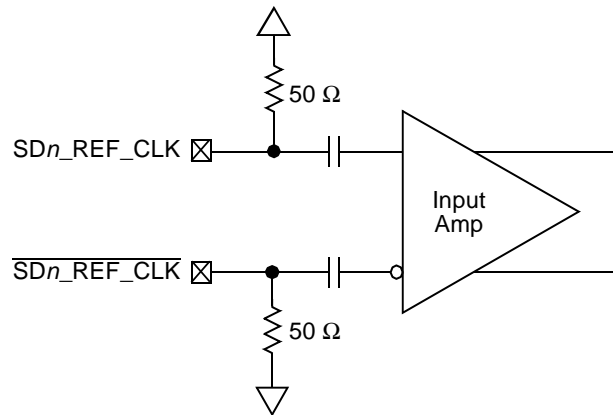

Figure 23. Receiver of SerDes Reference Clocks
Figure 23 shows a receiver reference diagram of the SerDes reference clocks.
- The SD_REF_CLK and $\overline{\text{SD_REF_CLK}}$ are internally AC-coupled differential inputs as shown in Figure 23. Each differential clock input (SD_REF_CLK or $\overline{\text{SD_REF_CLK}}$) has a 50- Ω termination to $\text{XCOREV}_{\text{SS}}$ followed by on-chip AC coupling.